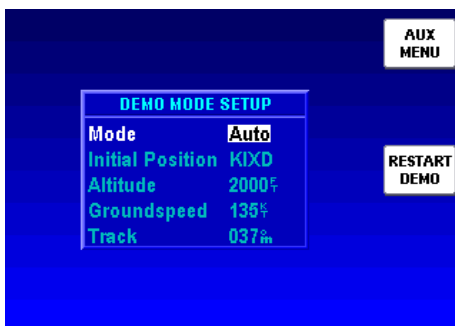

Figure 1-178
3. Press the **SELECT** Softkey to display Figure 1-178. In versions without the optional internal GPS, the default **Mode** setting is **Auto**. When **Auto** is selected, all other parameters will be "grayed out". To change the other parameters, turn the Rotary Knob to select **Manual** in the **Mode** field. The Joystick may now be used to select the desired field. Turn the Rotary Knob to enter the desired values.